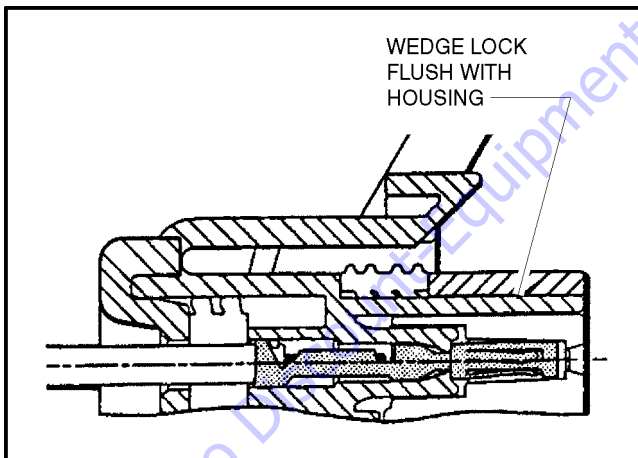

Figure 10-11. Connector Assembly Figure 4
4. Slide the wedge lock into the housing until it is flush with the housing (See Figure 10-11.).